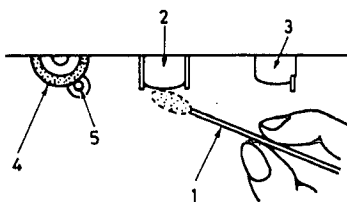

Fig. 9
2. Moisten a cotton swab (1) with a proprietary cleaner or methylated spirit and apply it to the faces of both heads (2 and 3), rubbing gently until all traces of dirt or oxide are removed. Also clean the surfaces of the pinch roller (4) and the capstan (5) (Fig. 9).